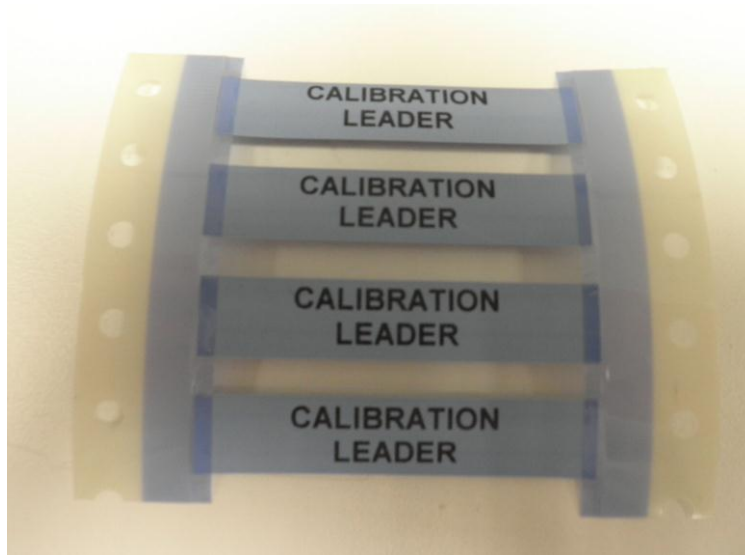

Figure 1, size $\frac{1}{4}$ = 4 markers for the TE3112
2. Cut the correct length of leader as shown in Figure 1.